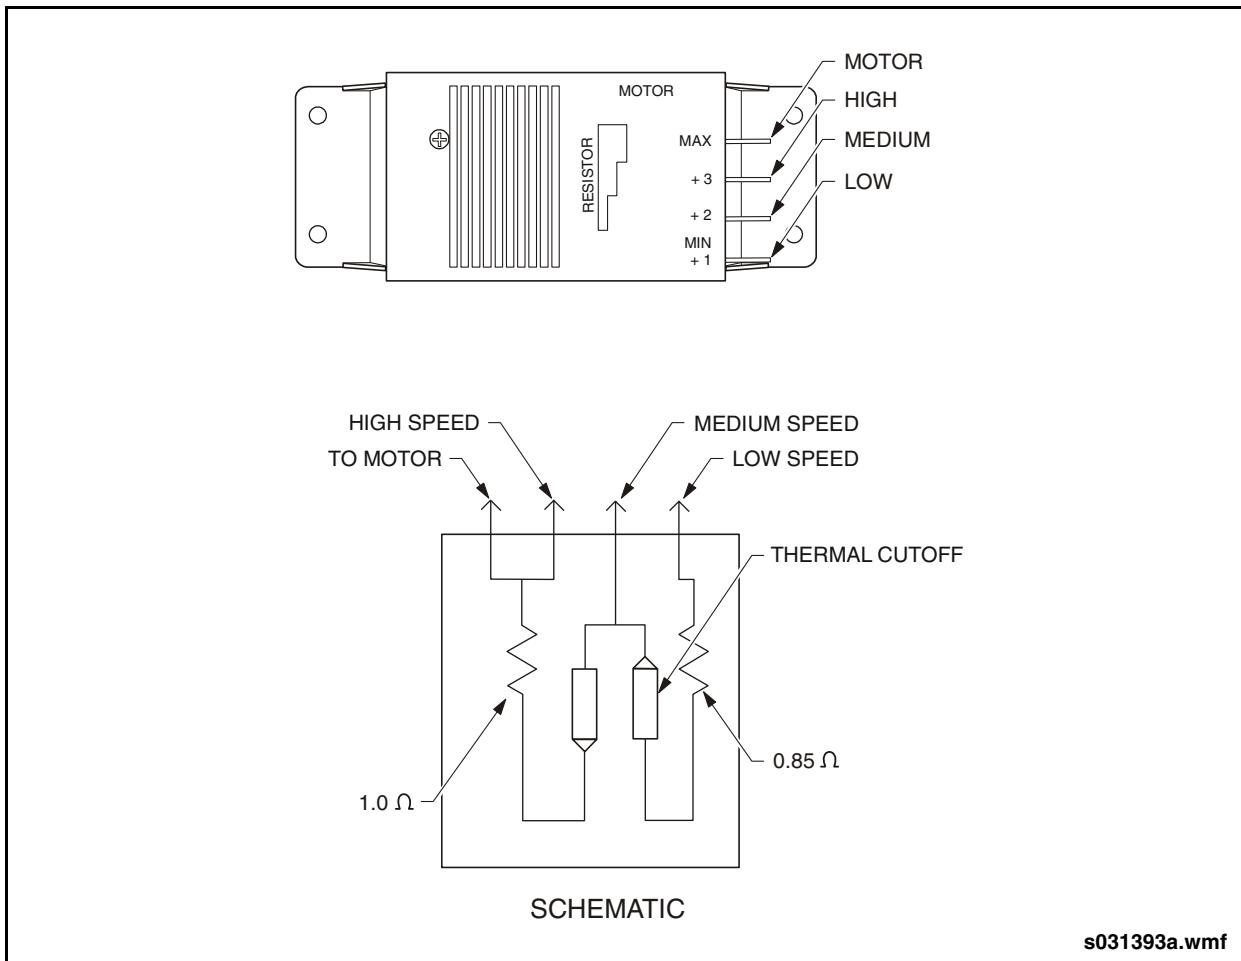

Fig. 10-10: Resistor Module
- a. Test the resistance between the Motor terminal and the High Speed terminal. Verify that the value is 0 ohms. See "Fig. 10-10: Resistor Module" on page 33.